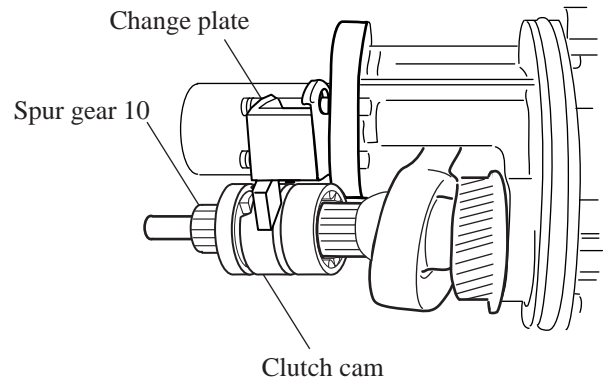

Fig. 11E
7. Assemble spur gear 10 to cam shaft as illustrated in Fig. 11E.